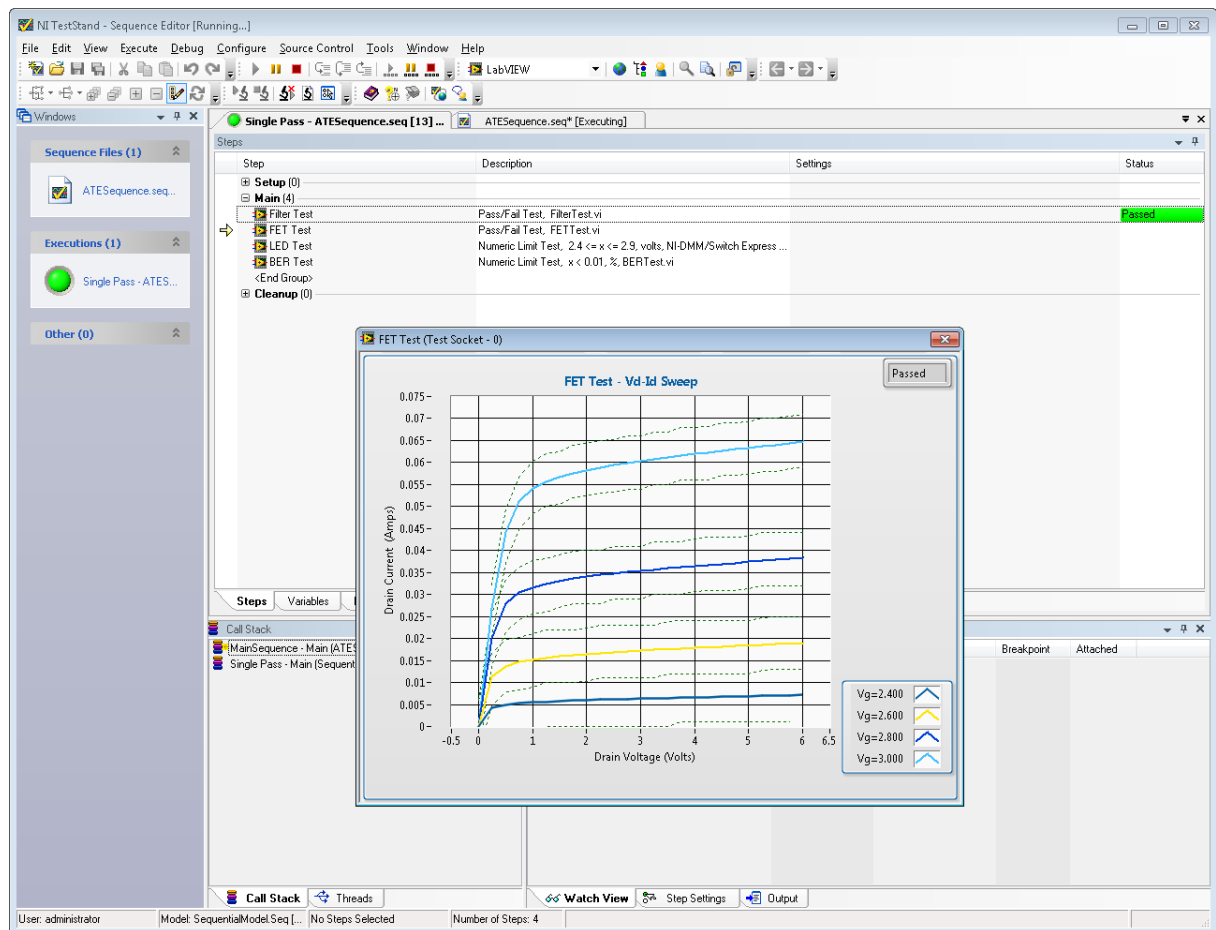

Figure 1-17. Sequence Editor Running
- As the sequence executes, observe the execution window to see each step as it executes, as shown in Figure 1-17.